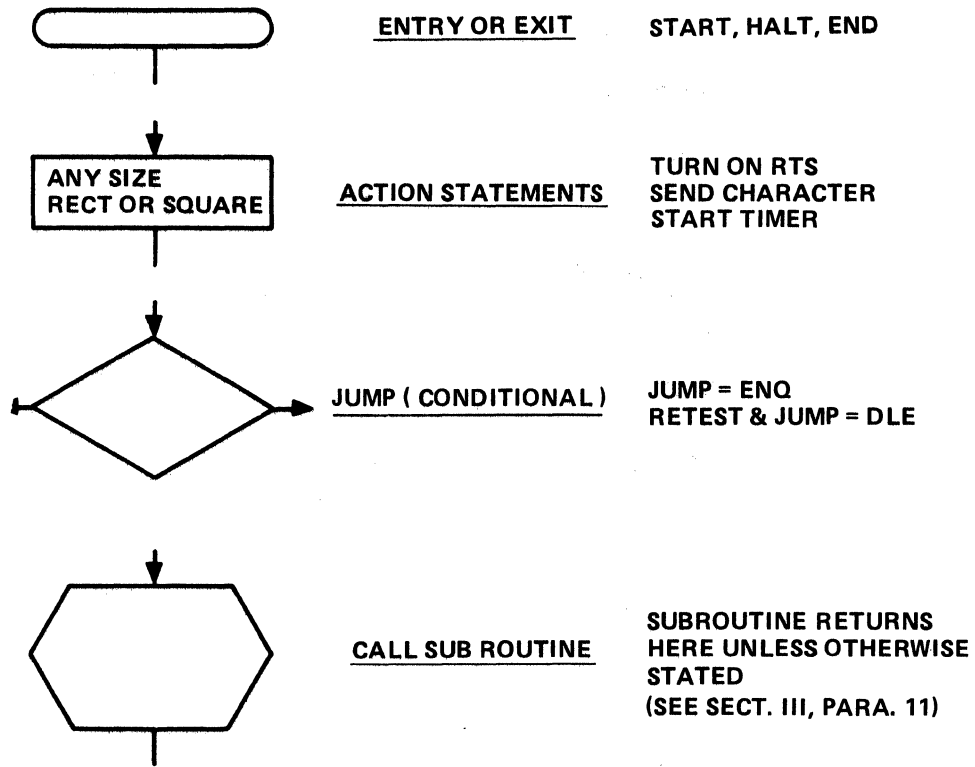

Figure A-2. Intershake Program Flow Chart Symbols.
Figure A-2 shows the flow chart symbols used in the program modules. There are four major program criteria: (1) input/output, (2) actions, (3) conditional tests/JUMPS, (4) subroutines.